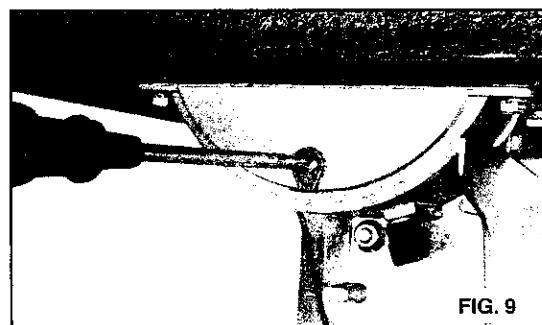

FIG. 9
d. Lock the table into position and check that the indicator reads zero degree on the side of lower table trunnion. Loosen the screw securing the indicator and reset if necessary to give zero degree reading. (See Fig. 9)